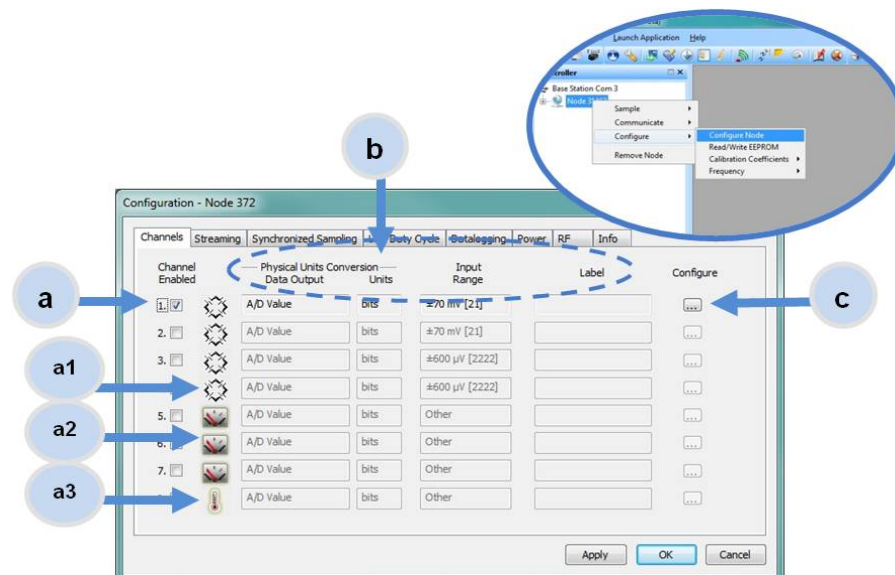

Figure 8 - Node Channels Menu
- a. **Channel Enabled:** indicates the channel number. The check box is used to enable the channel and select it for sampling. The icon next to the check box describes the channel type intrinsic to the node being used. In the following example (*Figure 8 - Node Channels Menu*): a1) analog differential channel icon, a2) analog single ended channel icon, and a3) temperature channel icon.